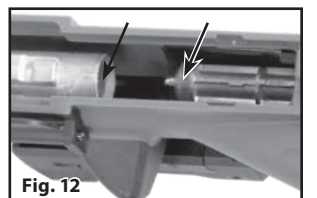

Fig. 10
2. Periodically check your air rifle. Apply one drop of RMCoil to the magazine O-ring (Fig. 10).